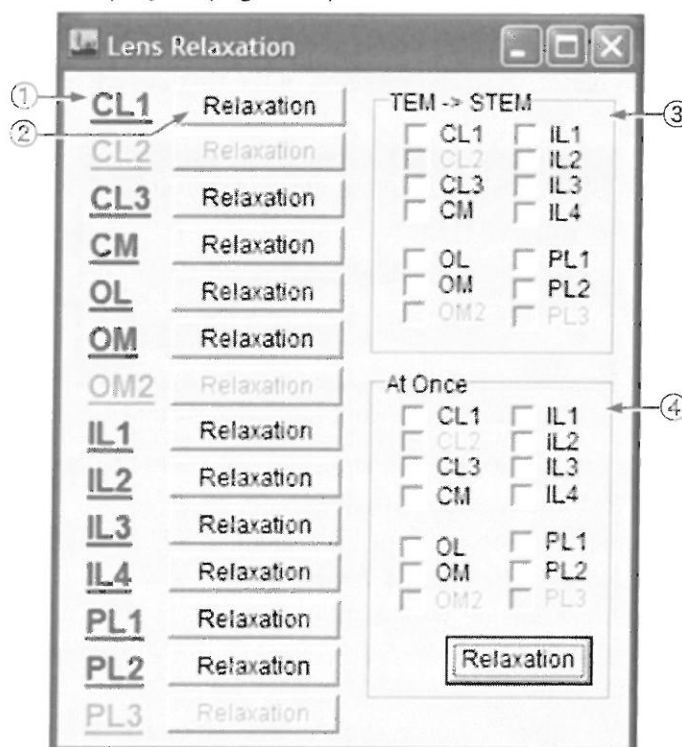

Fig. 5.77 Lens Relaxation window
- ◆ Select **TEM Controller — Option — Lens Relaxation**. The Lens Relaxation window is displayed (Fig. 5.77).